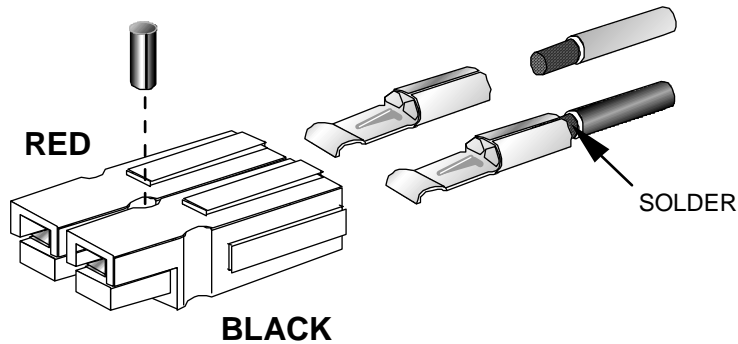

Figure 45. Power Cable Connector Assembly.
□ Locate the two Anderson power connector shells. Orient them as shown in Figure 45 and slide them together so the tongue on one side fully engages the groove on the other half.
□ Insert the terminals into the housings exactly as shown in Figure 45. The terminals should snap securely in place. Pull on the wires individually and make sure they cannot be pulled out (if so, the terminals are probably inserted upside down).